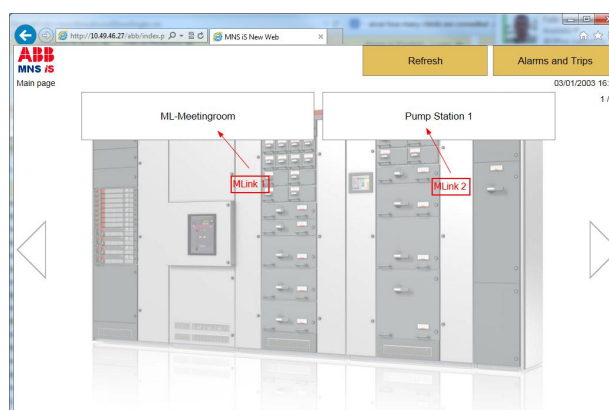

Figure 2 - MLink list view – Modern WEB Layout
- “Log off <user name>”: This button shows the user who is logged in. By clicking the button the user is logged off and gets back to the *MLink* list view, see **Figure 2**.
- “Back”: Go back to the last visited view. This button is inactive in **Figure 2** (start view) and **Figure 49 - Switchgear view** (go back by “Log off <user name>”)